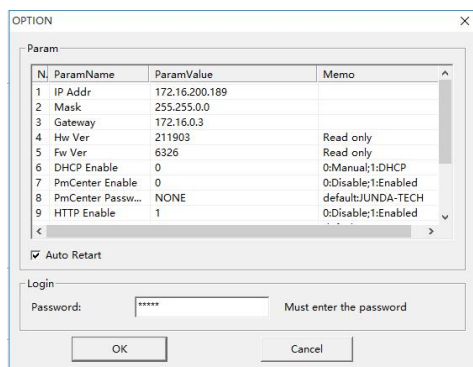

Figure 6
⑤ After setting, return to the option dialog box, and the modified parameters (not effective) are displayed at this time; Select the automatic restart device item, enter the management password (admin by default), as shown in Figure 6, and click OK.